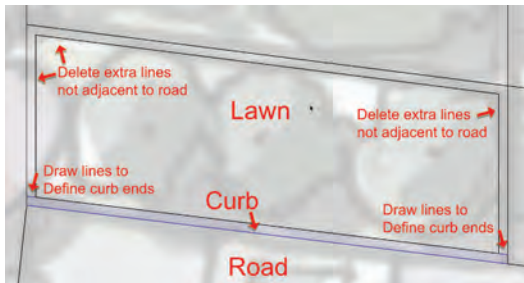

Fig. 7-26: Define ends of curb locations. Delete extra lines created from using the Offset tool.
- b. Draw perpendicular lines between the edge of the road and the offset line at locations where the curb would end; curbs should be located only adjacent to the road (Fig. 7-26). Repeat this step for areas